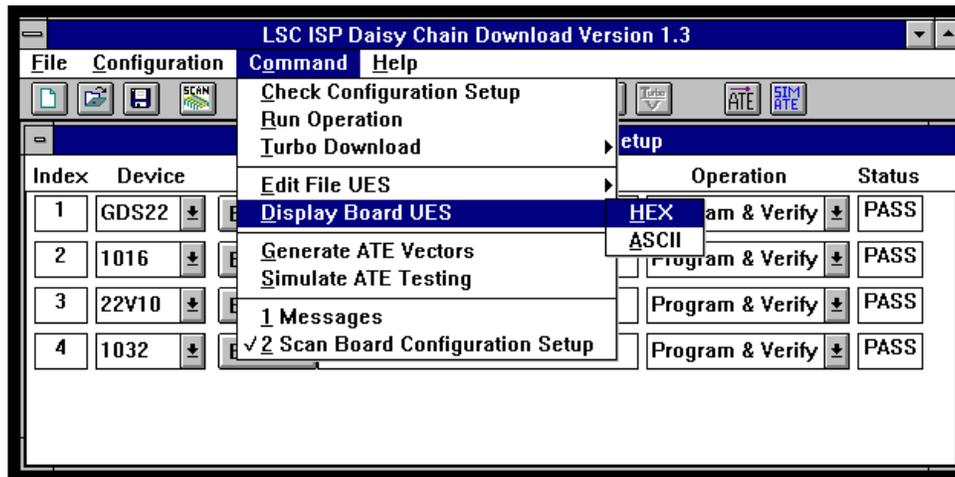
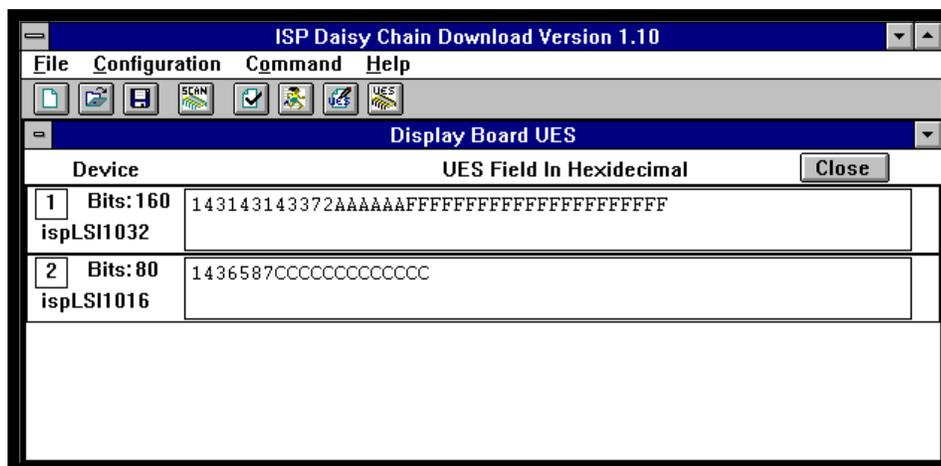

Figure 3-22. **Command** ⇒ **Display Board UES** ⇒ **HEX** Menu Option
Figure 3-23. Display Board UES Dialog Box
1. Select **Command** ⇒ **Display Board UES** ⇒ **HEX** or the **UES chip** icon from the ISP Daisy Chain Download menu (Figure 3-22). The icon defaults to hexadecimal format. You may also select the **ASCII** option. This function performs a scan of the board. The Display Board UES dialog box appears (Figure 3-23).